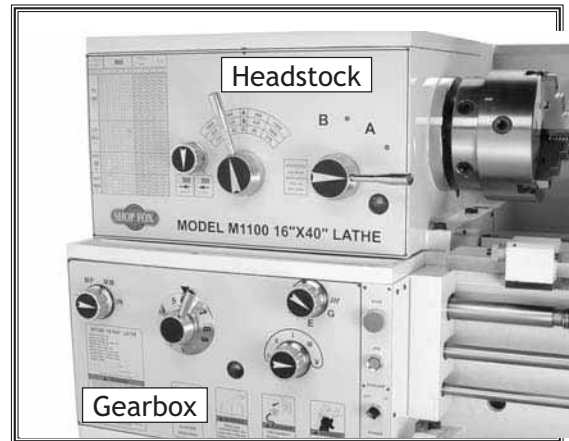

Figure 58. Lathe RPM and threading controls.
2. Set the direction of lead screw rotation and the spindle RPM with the knob and levers on the headstock shown in **Figure 58**.
3. Refer to the lathe threading chart and move the three feed dials and the lever on the gearbox shown in **Figure 58** to the required threading positions.